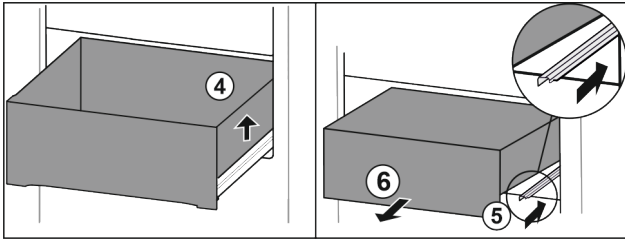

Fig. 88
- ▶ Lift drawer on the right. Fig. 88 (4)
- ▶ Insert right rail. Fig. 88 (5)
- ▶ Remove drawer to the front. Fig. 88 (6)